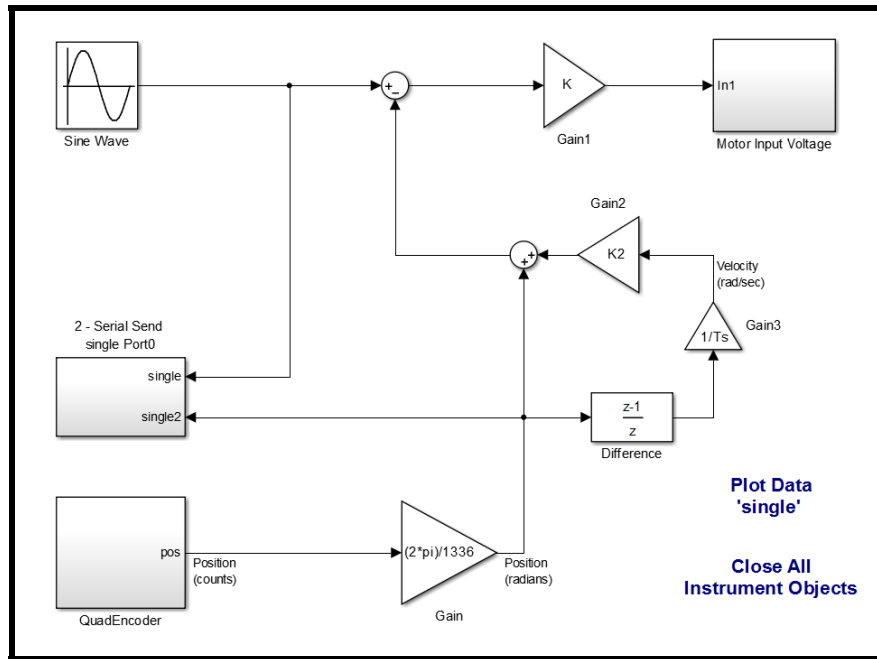

Figure 3.7: Final Model
19. Connect the blocks together, as in Figure 3.7.